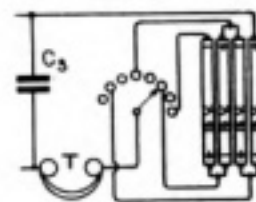

Fig. 2.
H.T. Battery. Fit four 15-volt H.T. Units in the place formerly used as a space for the telephones, and in the centre of the panel above these batteries an 8-point rotary switch should be mounted. Stud 1 is the "off" position, studs 2, 4, 6 and 8 are for 15, 30, 45 and 60 volts respectively, and studs 3, 5 and 7 are "dead" (to prevent short-circuiting). The banks of the cells are connected as shown in Fig. 2. One